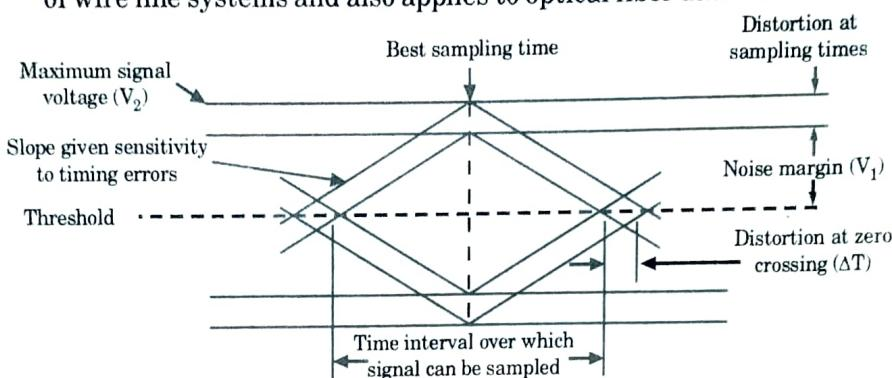

Fig. 5.6.1. Simplified eye diagram showing the key performance parameters.
- The height of the eye opening at the specified sampling time shows the noise margin or immunity to noise. Noise margin is the percentage ratio of the peak signal voltage V_1 for an alternating bit sequence (defined by the height of the eye opening) to the maximum signal voltage V_2 as measured from the threshold level, as shown in Fig. 5.6.1. That is